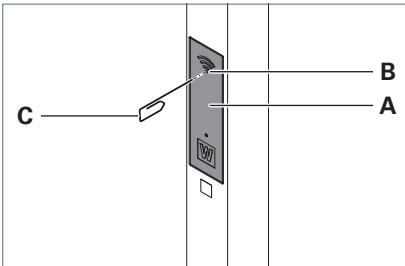

Fig. 1: Service flap.
- ▶ To unlock the service flap **A** on the pole, press a straightened paper clip **C** into the opening **B**, see Fig. 1.